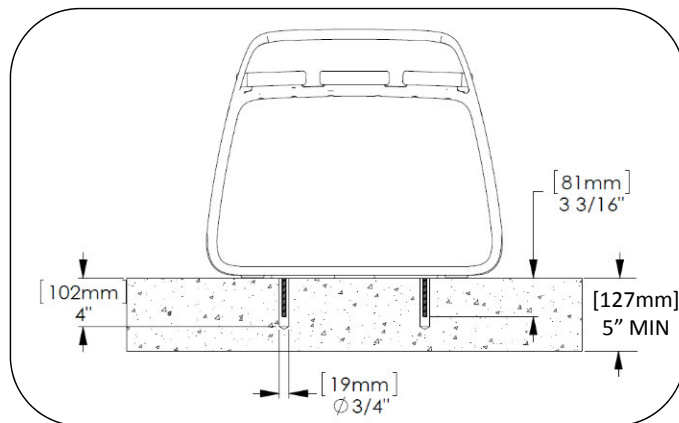

Fig. 3 – Embedded section detail for holes
6. Drill holes according to Fig. 3. Clear holes of debris.